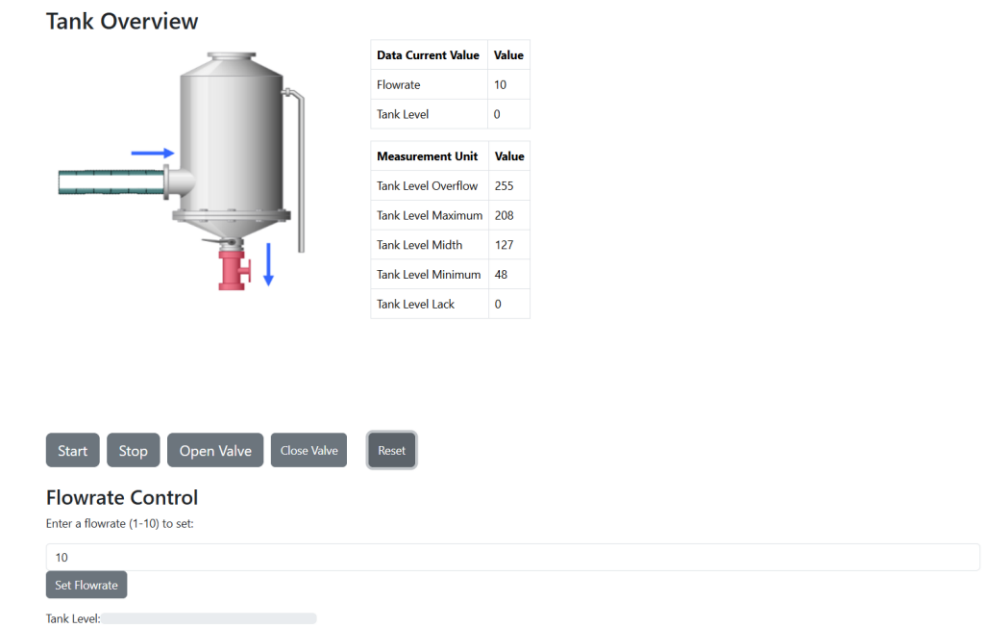

Figure 4-4: Web application Overview Tank. Stop State
- c. Image Update: Updates the tank image to idle or stopped state indicating no active changes. See in Figure 4-4